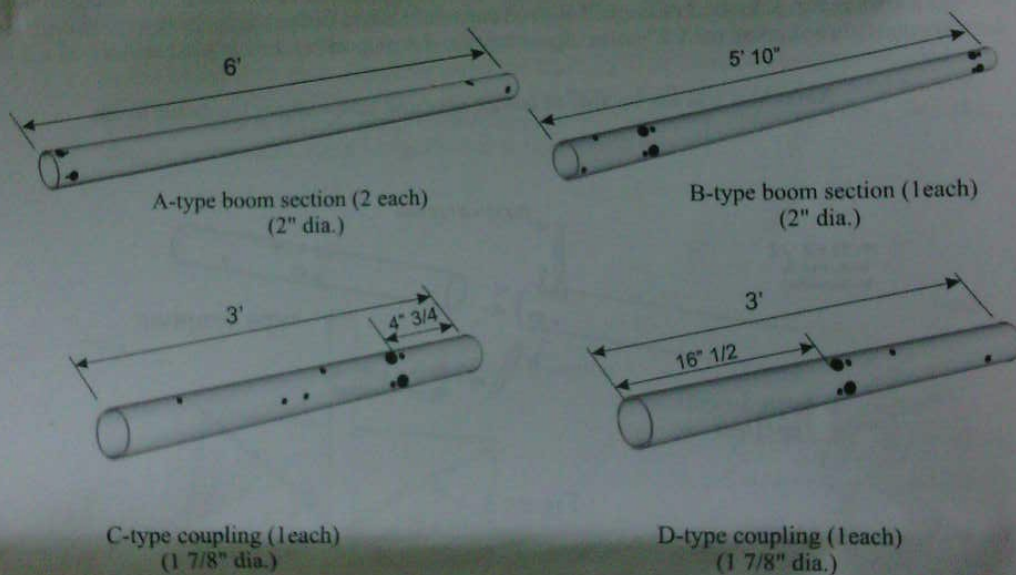
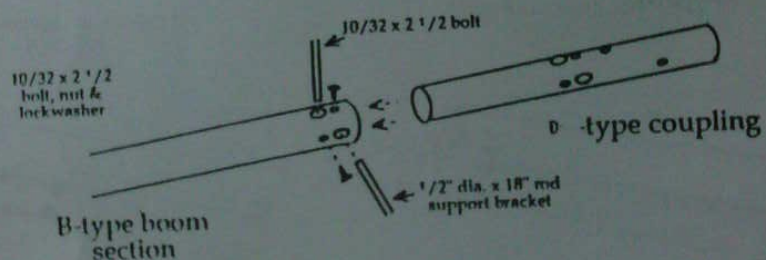

Figure 1
Figure 3
- 3) Install the D-type coupling (identify from fig. 1) in the appropriate end of the B-type boom section, as shown in fig. 3. Insert 2 of the 1/2" dia rod support brackets through both the boom and coupling sections after aligning the 1/2" holes. Again bolt the rod support brackets in place with 10-32 x 2 1/2" bolts.